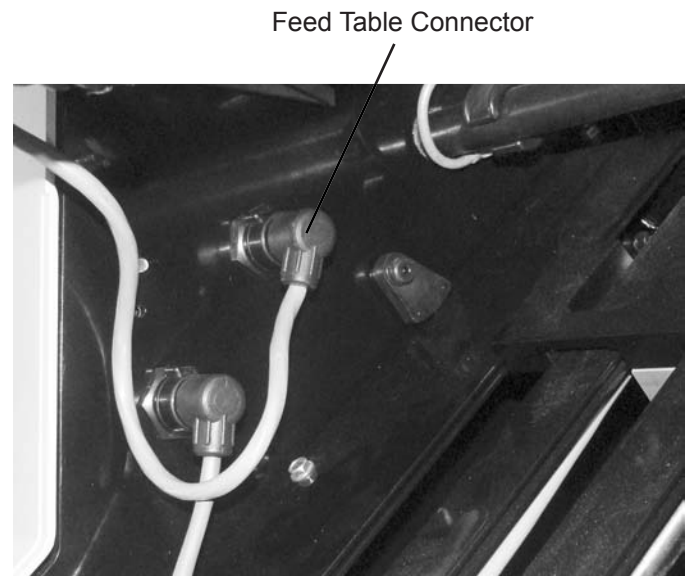

Fig. 12
6. Plug the feed table into the side of the frame. (Fig. 12)